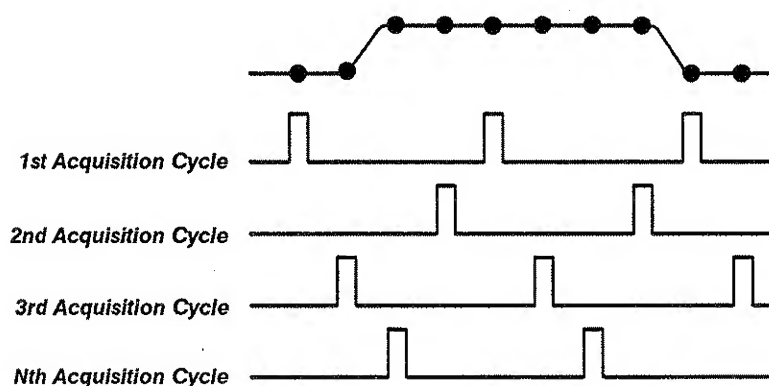

Figure 2-17: Equivalent Time – Random Sequential Sampling
**Equivalent-Time Sampling** — In equivalent-time (ET) sampling the oscilloscope acquires signals over many repetitions of the event (Figure 2-17). Thus, you use it on repetitive signals. The oscilloscope takes a few samples at each repetition, and then reconstructs the waveform in equivalent time. This allows your instrument to accurately acquire signals whose frequency components are much higher than its real-time sample rate.